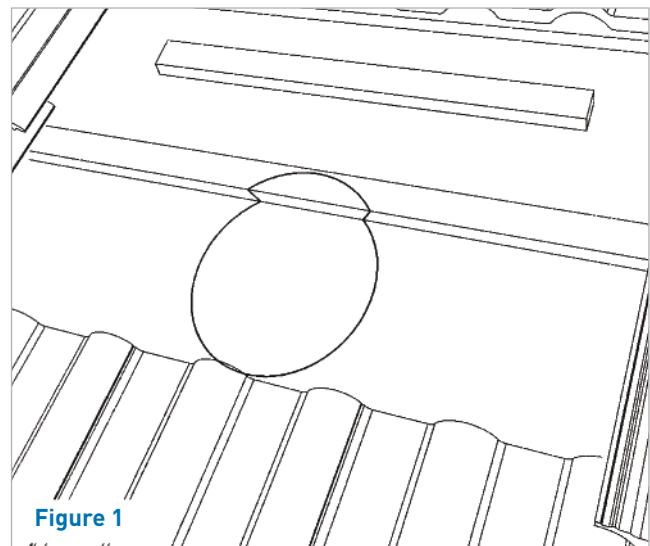

Figure 1
6. Measure the distance from the top edge of the roof flashing to the top edge of the first batten below. If the distance is greater than 75mm, fix a short length of support batten across the rafters aligned with the top edge of the roof flashing (Figure 1).